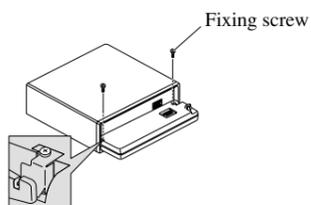

Fig. 13
**3. Fix the front panel to the unit using fixing screws. (Fig. 13)**